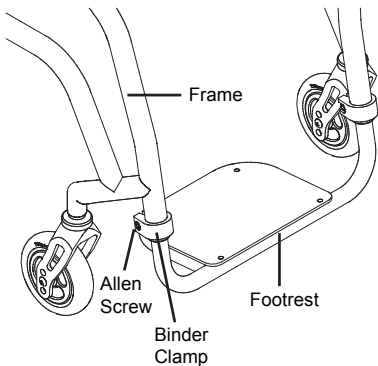

Figure 2
1. Loosen the Allen Screws in the two binder clamps that secure the footrest to the frame. See Figure 2. If replacing the footrest, loosen the Allen Screws sufficiently to permit you to completely remove the old footrest and make sure to leave the plastic footrest insert sleeve inside the frame tube. If adjusting the height, loosen the Allen Screws sufficiently to permit the footrest to move up and down freely within the binder clamps.